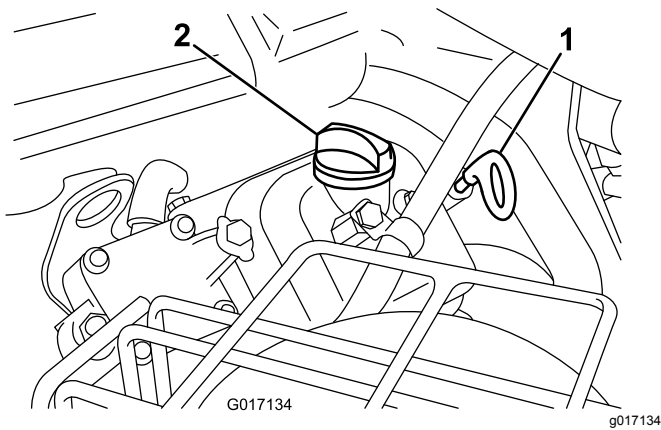

Figure 42
3. Insert the dipstick into the dipstick tube and thread it into the tube (Figure 42).